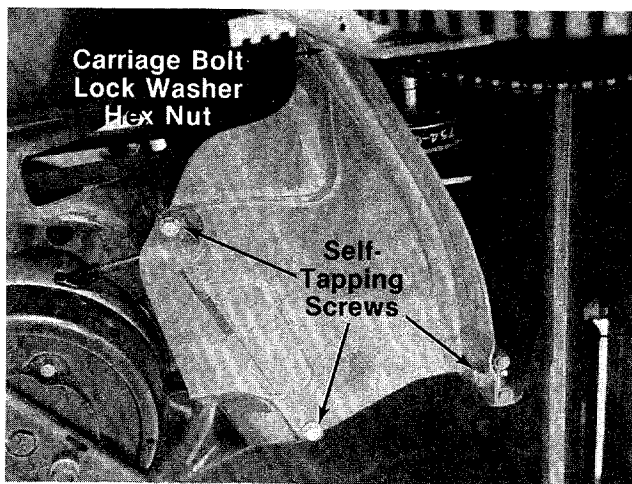

FIGURE 21.
5. Remove three self-tapping screws, and one carriage bolt, lock washer and hex nut from cover plate. See figure 21. Remove the cover plate.